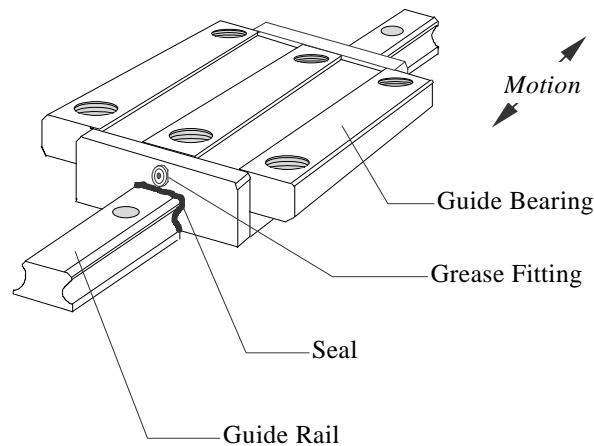

Figure 7-1. Guide Bearing and Rail
On all Discovery models, a guide rail and two guide bearings (AY) are located at the lower back of the C-arm. Another guide rail and two guide bearings (TX) are located on the right side running front to back just below the table. (See Figure 7-1).